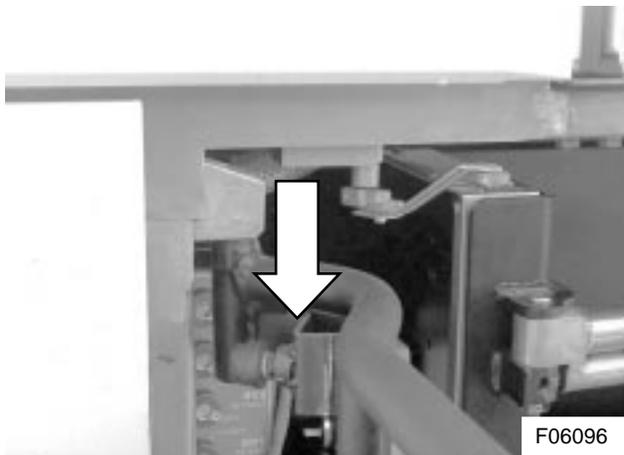

Figure 42: Door bumpstop
2) Withdraw the door bumpstop on the pantograph fully (see Figure 42). Secure with jamnut.